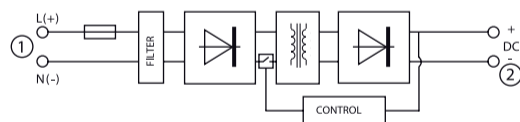

Figure-2
- The part which is numbered as 1 in Figure-2 is the Line and Neutral supply inputs of PS-722.
- The part which is numbered as 1 in Figure-2 is the DC voltage output of PS-722.